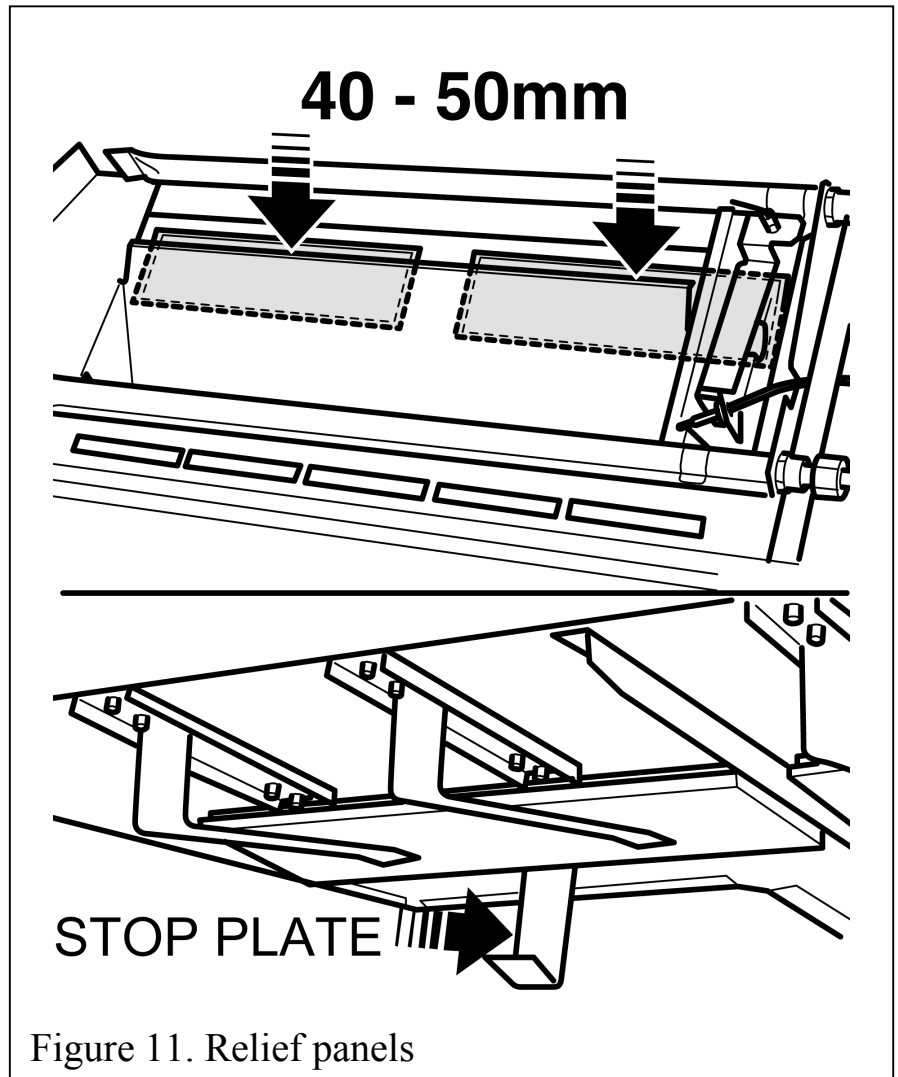

Figure 11. Relief panels
- To check the operation of the relief panels push them down from inside the firebox. They can be accessed behind the lower ceramic support by first removing the two cross logs and front log. (See figure 11). Push down by 40-50mm and ensure that they open easily and freely. There should be no restriction.